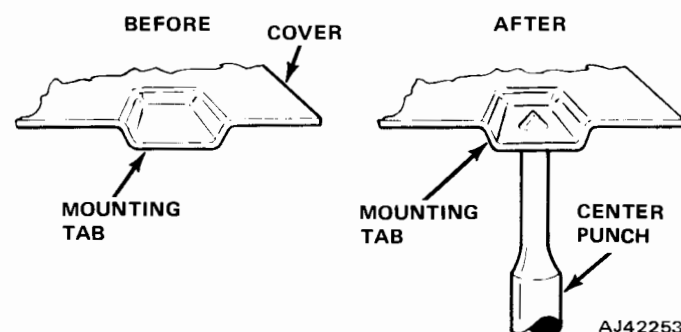

Fig. 3-100 Center Punching Covers
- (1) Be sure radio has good ground.
- (2) Tighten all radio chassis screws.
- (3) Center punch cover to make good electrical contact with front of case (fig. 3-100).